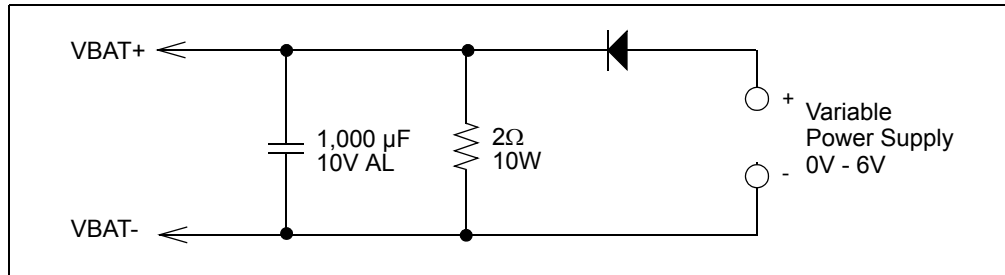

FIGURE 2-3: Simulated Battery Load.
3. The installed firmware will prevent the board from entering the 1.3A Fast Charge mode, if the battery terminal voltage is less than 2V. During power-up, the board will always trickle charge first, so using a purely resistive load will not work for trickle and fast-charge current. The best way to evaluate the charger is to use a three series cell NiMH 2,200 mA/hour batteries, or the recommended simulated battery load. Refer to Figure 2-3 before applying a load to the MCP1630 Low-Cost NiMH Battery Charger Reference Design.